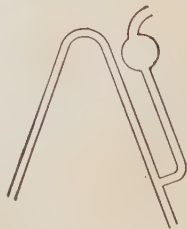

FIGURE 114.
24. Explain how the aspirating siphon shown in Figure 114 is started. Why is such a siphon used with corrosive liquids?